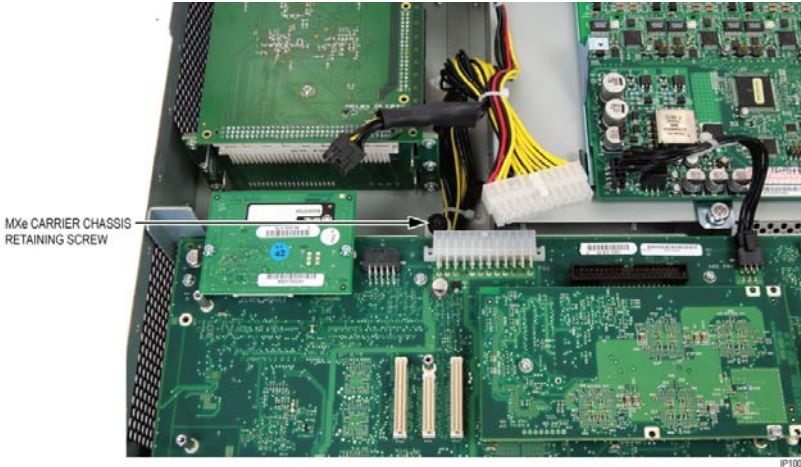

Figure 37: Carrier Chassis Retaining Screw
7. Unfasten the MXe carrier chassis retaining screw (see Figure 37).